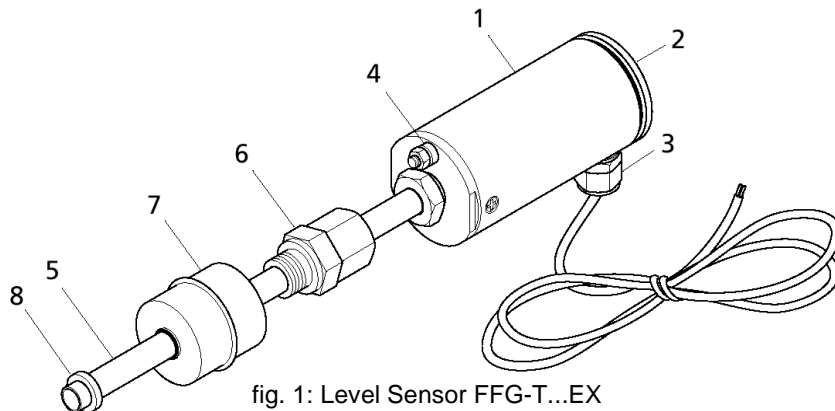

fig. 1: Level Sensor FFG-T...EX
The design of the FFG-T...EX system is shown in figure 1 in the form of embodiment furnished with a screwed-in element. Provided in the probe head (1) of the FFG-T...EX system is the area of connection and adjustment protected by lid (2). The electrical connection is via an M16x1.5 cable gland (3) at the top of the probe head while the earth connection (4) is at the bottom of the probe head. Seated on the probe tube (5) for vertically adjustable assembling purposes, within the container, is a compression fitting (6) (G1/2, W27) or a flange (not shown). The float (7) serves for continuously gauging the product level or separating layer, and is held on the probe tube by a guiding or locking ring (8) etc.